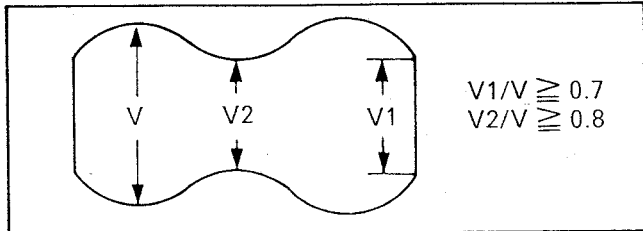

Fig. M13 Spec. of Envelope Figure
9. Turn the Tracking VR and adjust for maximum RF envelope. If the RF envelope does not meet these specs, $V1/V = 0.7$, $V2/V = 0.8$, then repeat steps 1-9 of item 3-2-5. again. (Fig. M13)